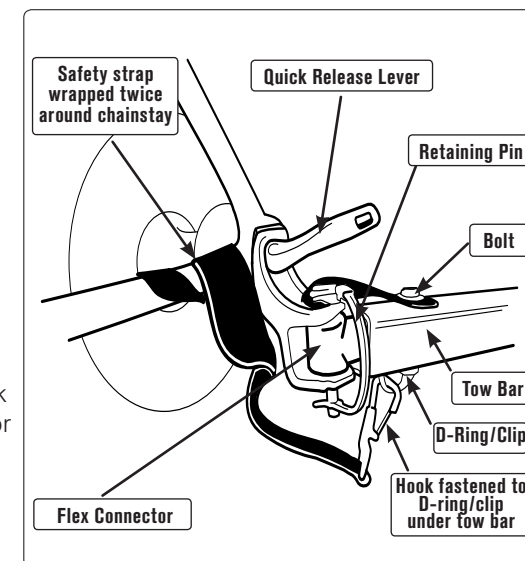

FIGURE 1: Forged Hitch Shown
2. Remove existing bolt, safety strap, lock nut and D-ring/clip from flex connector which is located at the end of tow bar. **FIGURE 1**
- From above, insert new bolt through safety strap grommet, tow bar, and D-ring/clip, and securely tighten new lock nut. (Lock nut (NOT SHOWN) is located directly underneath tow bar where bolt is inserted from the top of tow bar.) **FIGURE 1**